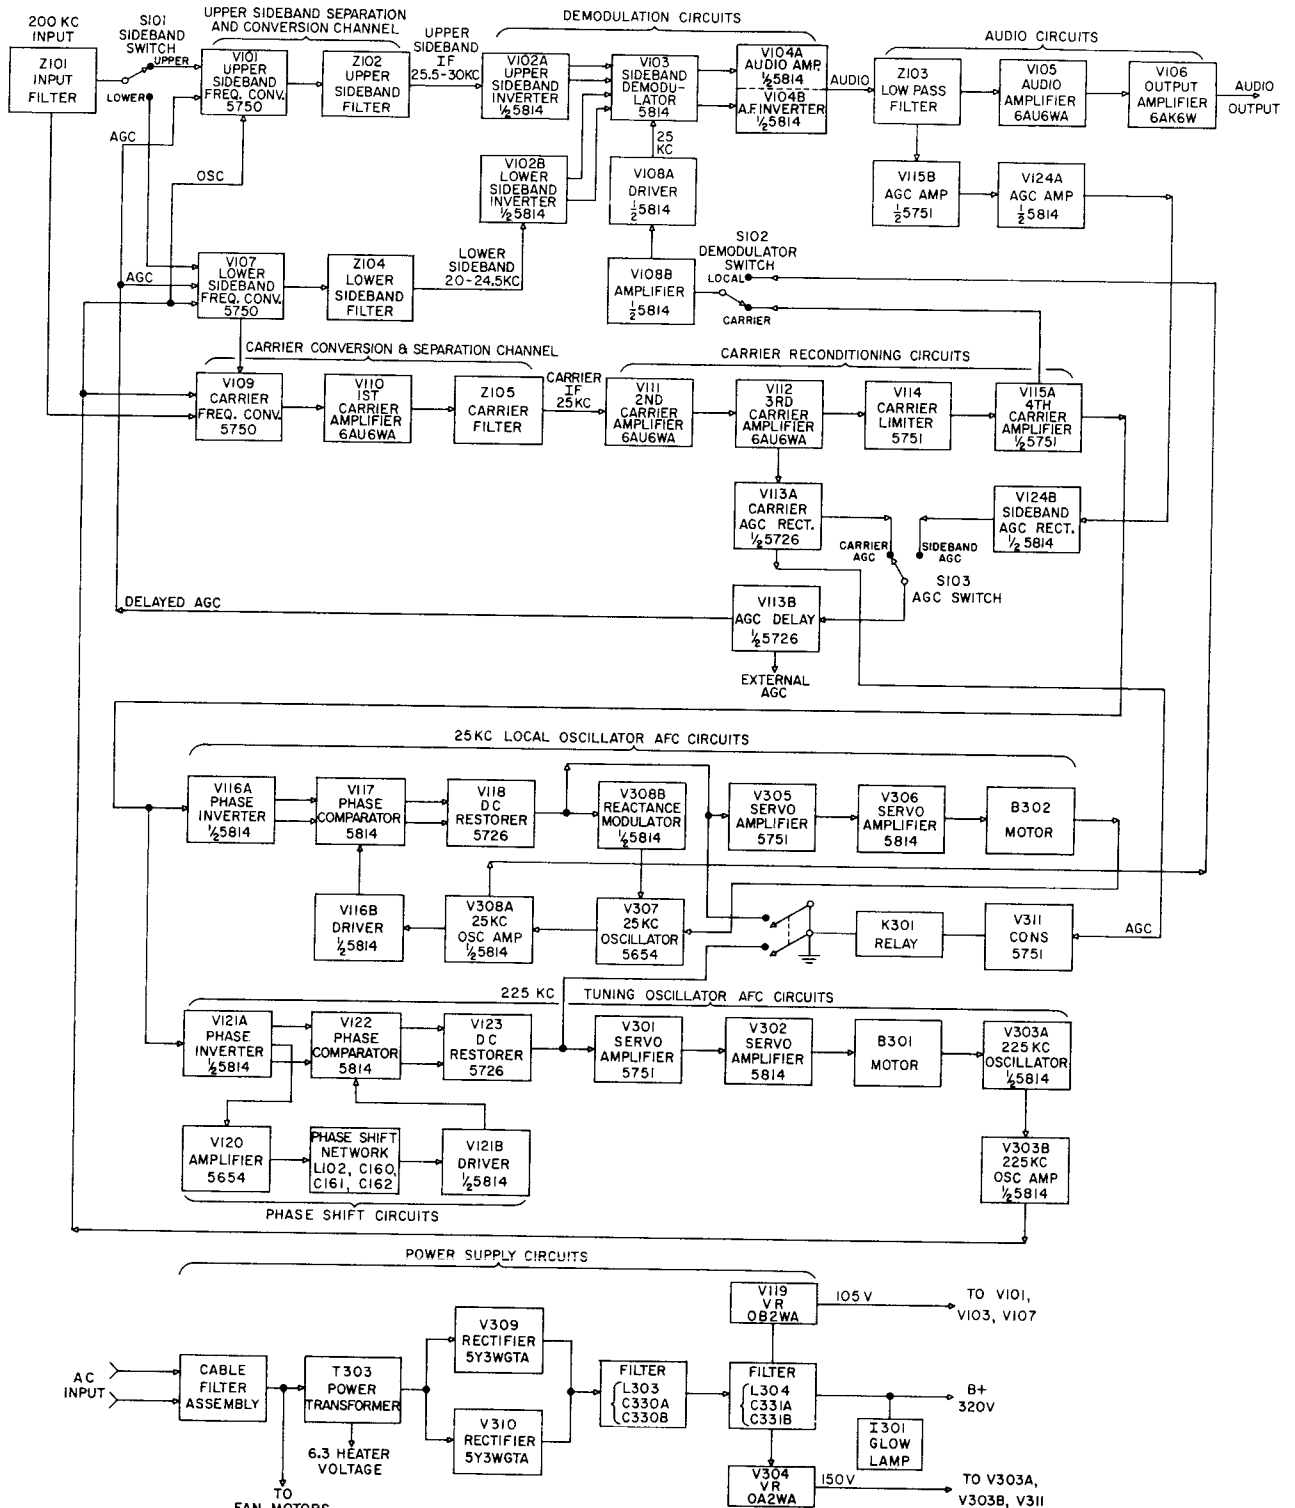
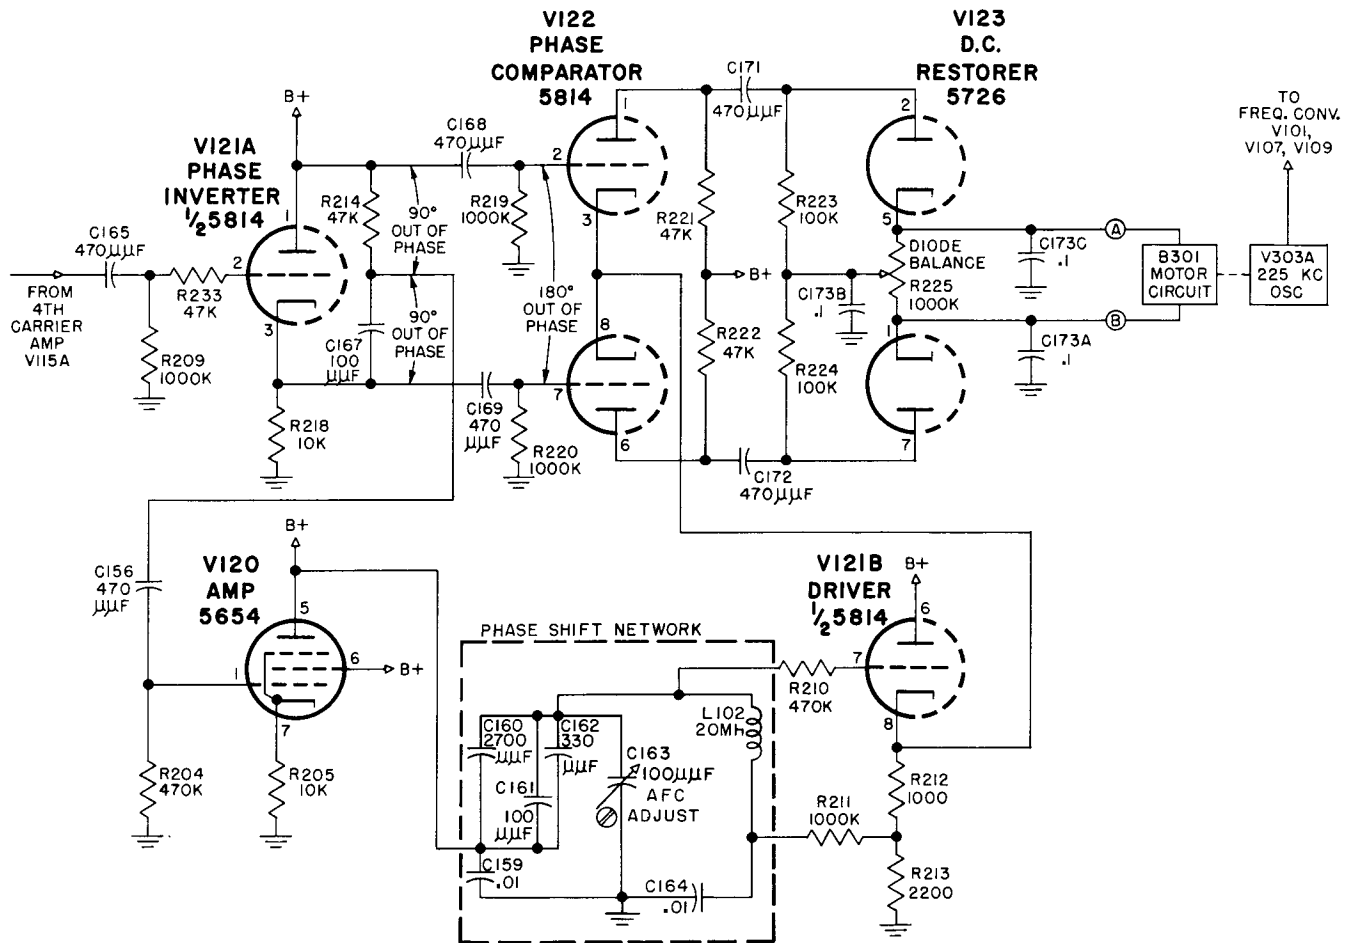

Figure 2-2. CV-216/URR, Overall Block Diagram
Figure 2-10. Tuning (225-Kc.) Oscillator AFC Circuits, Simplified Schematic Diagram
Figure 2-2 is the overall block diagram of the equipment. The input signal, centered at 200 kilocycles, passes through input filter Z101. If the upper sideband is selected, the input signal is mixed in upper sideband frequency converter tube V101 with the signal from tuning oscillator V303A. Upper sideband filter Z102 suppresses the carrier, lower sideband and other undesired signal components, and passes only the upper sideband intermediate frequency band of 25.5 to
Referring again to block diagram, Figure 2-2, it will be seen that the input signal at the output of filter Z101 is routed also to carrier frequency converter tube V109. Here the signal mixes with the injection voltage from the tuning (225-kilocycle) oscillator, undergoes amplification in V110 and filtering in Z105. Z105 passes only the desired carrier intermediate frequency centered at 25 kilocycles. Two stages of amplification, V111 and V112, limiter V114 and another stage of amplification, V115A, serve to recondition the carrier, if originally suppressed.
Referring to the AFC circuits on block diagram Figure 2-2, it will be noted that fourth carrier amplifier V115A supplies the 25-kilocycle signal to the local (25-kilocycle) oscillator AFC circuits and to tuning (225-kilocycle) AFC circuits. The latter AFC circuits maintain the tuning oscillator at the proper frequency for mixing with the input signal in frequency converters V101, V107 and V109. The mixing of these two signals produces an IF signal within the passband
d. CARRIER SEPARATION CHANNEL. (See Figure 2-2.)—The function of this channel is (1) to convert the carrier of the incoming signal to an intermediate frequency of 25 kilocycles, and (2) to produce, by filtering, a pure carrier signal devoid of sidebands. Included in the carrier separation channel are carrier frequency converter V109, the first carrier amplifier V110 and filter Z105. The 200-kilocycle signal, taken from input filter Z101, is mixed with the tuning oscillator signal in carrier frequency converter V109. The output of V109 is amplified in V110 and filtered in Z105. A pure 25-kilocycle signal appears at the output of filter Z105.
e. CARRIER RECONDITIONING CIRCUITS (See Figure 2-2.)—The output of filter Z105 is applied to the carrier reconditioning circuits, which include second carrier amplifier V111, third carrier amplifier V112, carrier limiter V114 and fourth carrier amplifier V115A. The purpose of these stages is to amplify the carrier to a predetermined level. The reconditioned carrier serves two purposes. First, it is used as a reference signal for the automatic frequency control circuits and secondly, it is used for demodulation with a sideband to obtain audio.
f. SIDEBAND DEMODULATOR CARRIER INJECTION CIRCUITS. (See Figure 2-2).—The purpose of the carrier injection circuits is to present the carrier
g. AGC CIRCUITS. (See Figure 2-2.)—The purpose of the AGC circuits is to reduce the gain of the sideband channels on strong signals to prevent overloading of the converter circuits. Also, AGC minimizes the effects of fluctuations in signal strength because of fading. Delayed AGC voltage controls the gain of two sideband converters V101 and V107. This voltage may be obtained from either the sideband channel or from the carrier channel. An AGC switch S103
b. TUNING (225-KC.) OSCILLATOR AUTOMATIC-FREQUENCY-CONTROL CIRCUITS.—The circuits in the tuning oscillator frequency-control system are shown in the block diagram, Figure 2-2, and the simplified schematic diagram, Figure 2-10. The network consisting of capacitors C160, C161, C162, C159, C163, C164 and coil L102 will be referred to in the following description as the "phase-shift network."
The following is a step-by-step summary of the tuning oscillator AFC circuit when operating to correct the oscillator frequency. Refer to block diagram, Figure 2-2.
(1) PHASE INVERTER V121A. (See Figure 2-10).—Phase inverter V121A uses one section of a 5814 twin triode. The principle of operation of V121A is the same as that of sideband inverter V102. Its function is to split the 25-kc. carrier signal into two signals 180° out of phase for application to the grids of phase comparator V122 which operates in push-pull.
tween points A and B (Figure 2-10) will be zero.
(3) THE PHASE SHIFT CIRCUIT. (See Figure 2-10.)—The phase-shift circuit comprises amplifier V120; the phase-shift network, consisting of capacitors